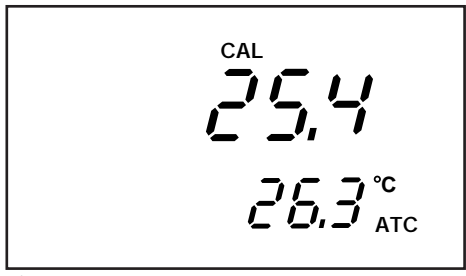

Figure 47
5. Press **MODE** again to switch to temperature calibration —See Figure 47.